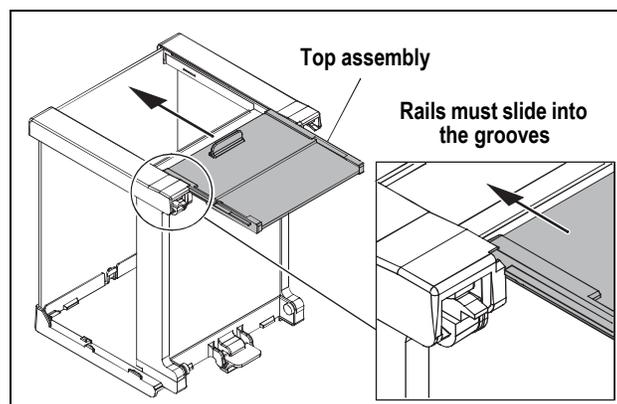

Figure 2-12. Install Top Panel
9. Slide the top door assembly, with the handle towards the front, into the top brackets as shown in Figure 2-12. Ensure the side rails of the top assembly are in the grooves in the top brackets.